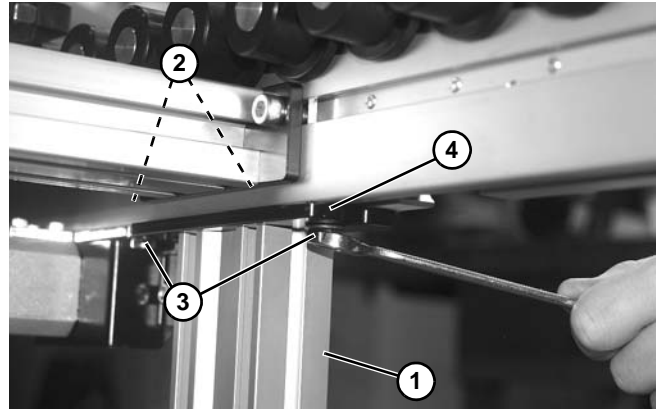

Figure 4
3. Raise stand leg (**Figure 4, item 1**) to bottom of conveyor. Make sure top plate mounting screws (**Figure 4, item 2**) align into channel.
4. Slide mounting hardware (**Figure 4, item 3**) into slot (**Figure 4, item 4**) on both sides of top plate and tighten.